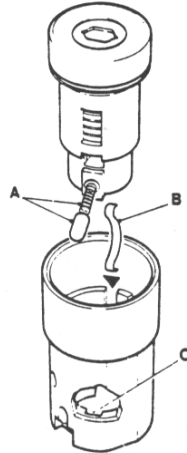

FIG. 10
- .Apply grease to the detent plunger and spring and install into lock barrel, (Fig. 10 A).
.Lubricate and install the steel spring clip into the lock barrel housing, (Fig. 10 B).
.Align and install the lock barrel into the lock barrel housing. To perform this, it is necessary to align the detent plunger with the slot and pushing until the plunger engages into the rear of the housing, (Fig. 10 C).